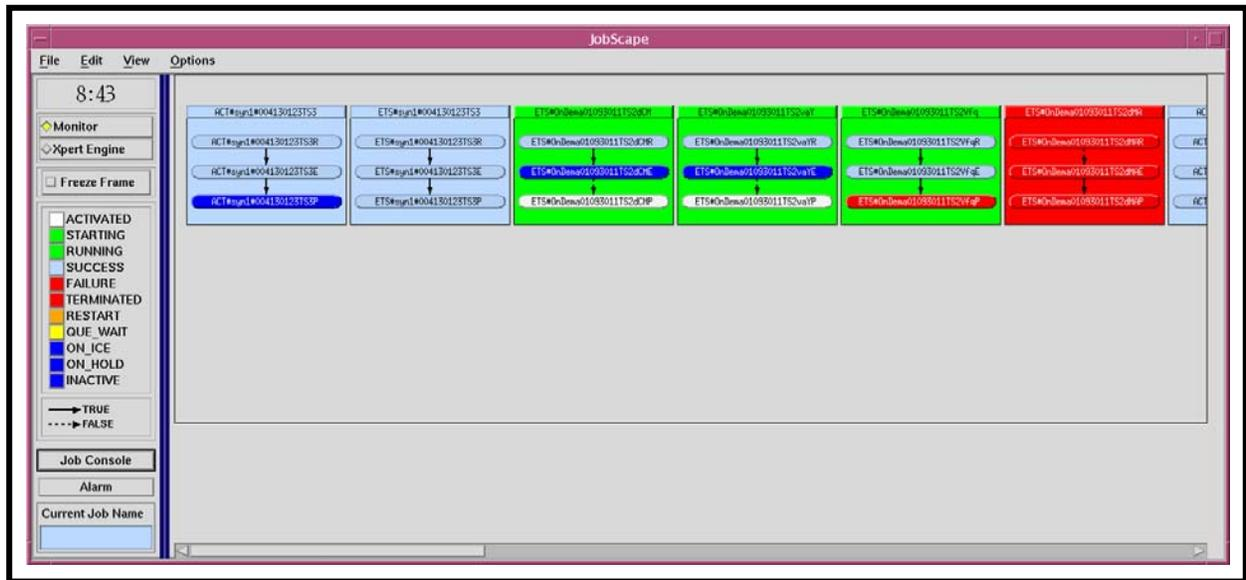

Figure 67. JobScope “Small Text” View
- **Small Text View** (Figure 67) is similar to **Normal Text View** but the text and graphics are smaller.